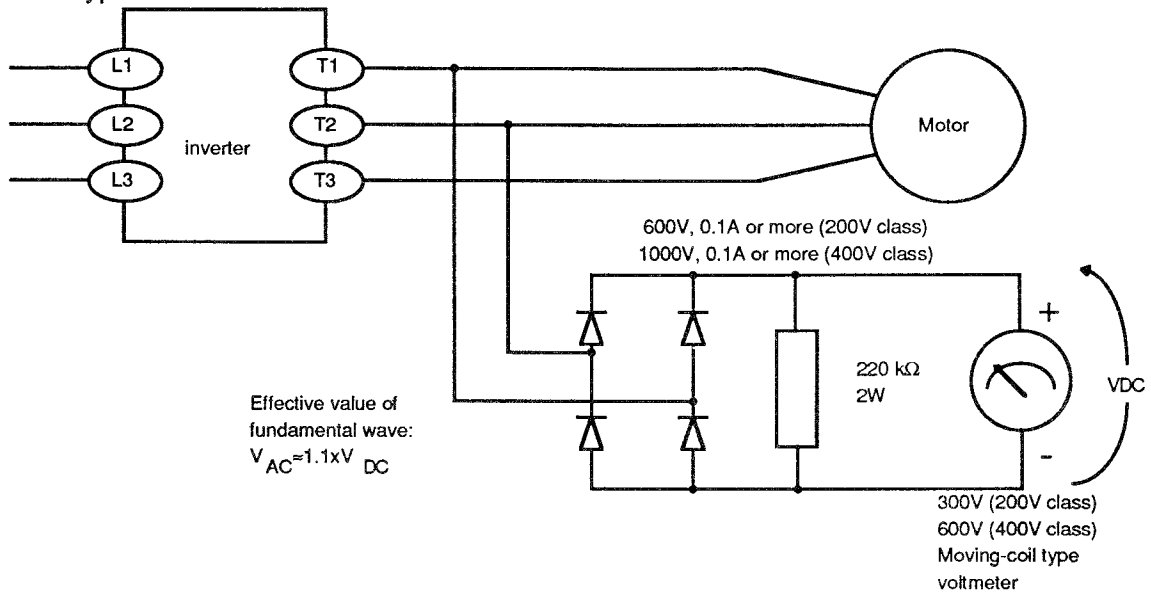

FIGURE 1-Output Voltage Measuring Circuit
output voltage can be obtained by using the circuit shown in Figure 1.
- 2) A moving-iron type meter cannot precisely measure the output voltage of a V/F inverter. The circuit shown in Figure 1 will give an effective value, V_{AC} , of the fundamental wave that directly affects the motor torque. A moving-iron type meter, or clamp-on ammeter can be used to measure the approximate output and input current. The input power can be measured by using 3 single-phase electrodynamic type meters.